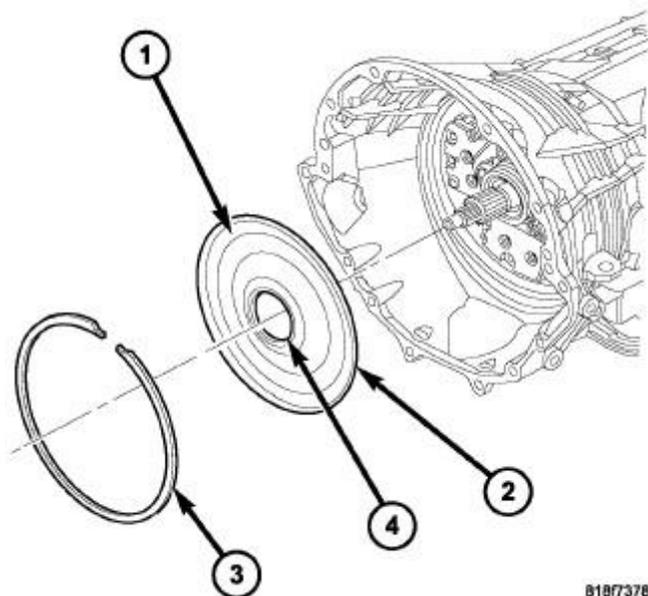

Fig. 134: Front Cover
3. Remove the snap ring (3) from the transmission case. Refer to **Fig. 134**.
4. Reaching through a case opening in the valve body area with a long blunted tool, remove the transmission front cover (1) from the transmission case. Refer to **Fig. 134**.